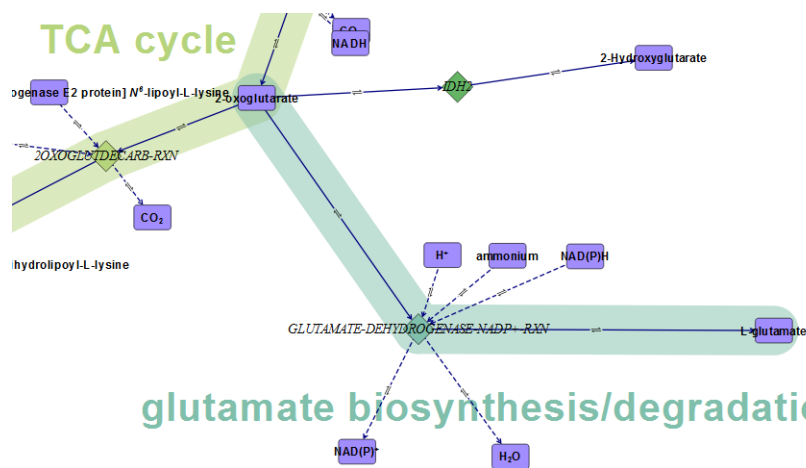

Figure 88 Drawing Area showing the final arrangement of the glutamate biosynthesis/degradation pathway
- n Move the pathway nodes to create a layout that is similar to Figure 88.